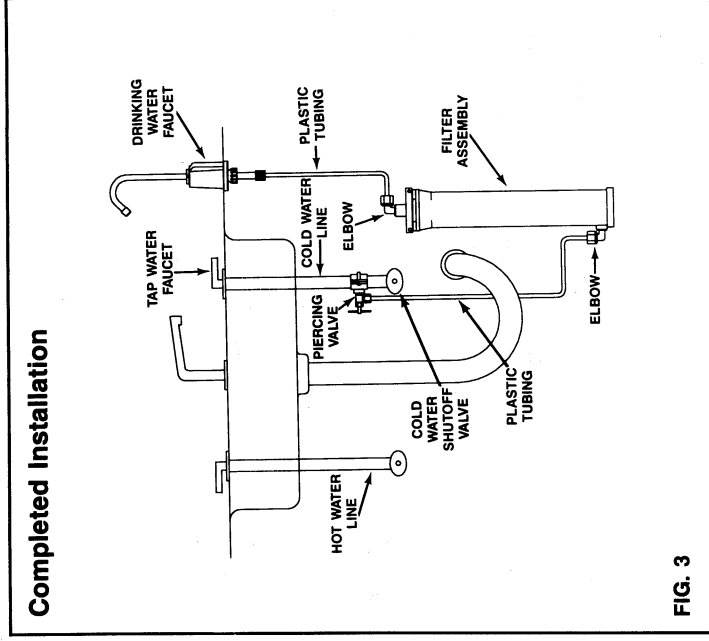

FIG. 3
2. Install the filter vertically (the preferred position) in a place where filter replacement can be performed easily. (Fig. 3). It may be mounted horizontally when space is limited.